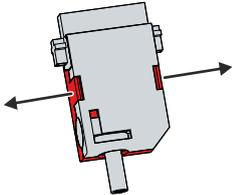

Fig. 14: CP69xx_disassembly of strain relief housing
1. Use your fingers to bend the latching lugs on the lower part slightly outwards (see Fig. 14).